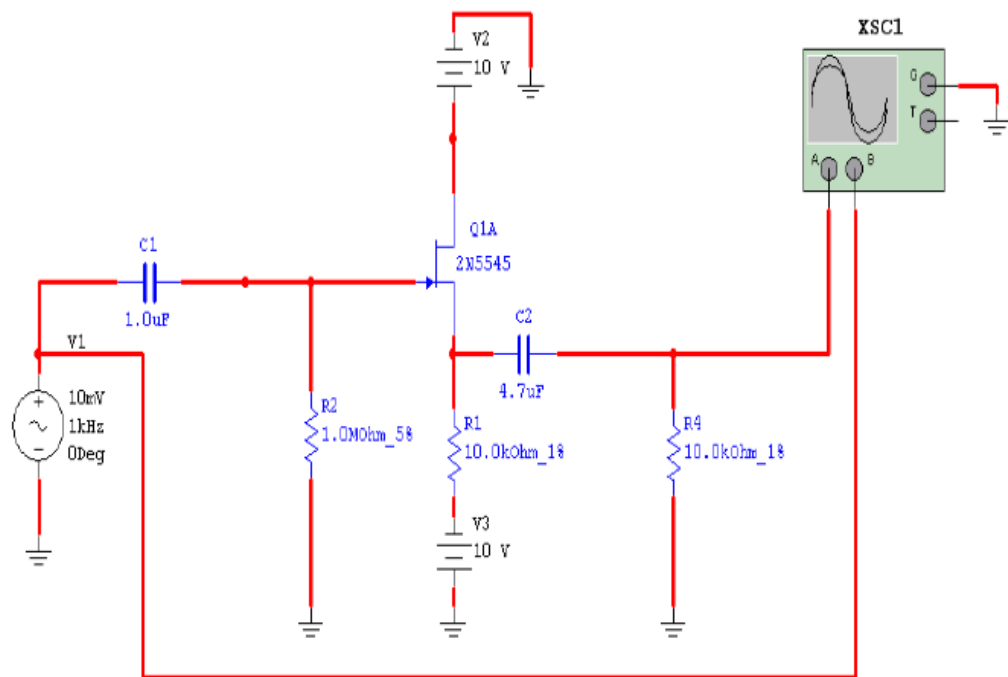

Fig.12 CD JFET amplifier
- Construct the circuit shown in Fig.12; with the above presented components.